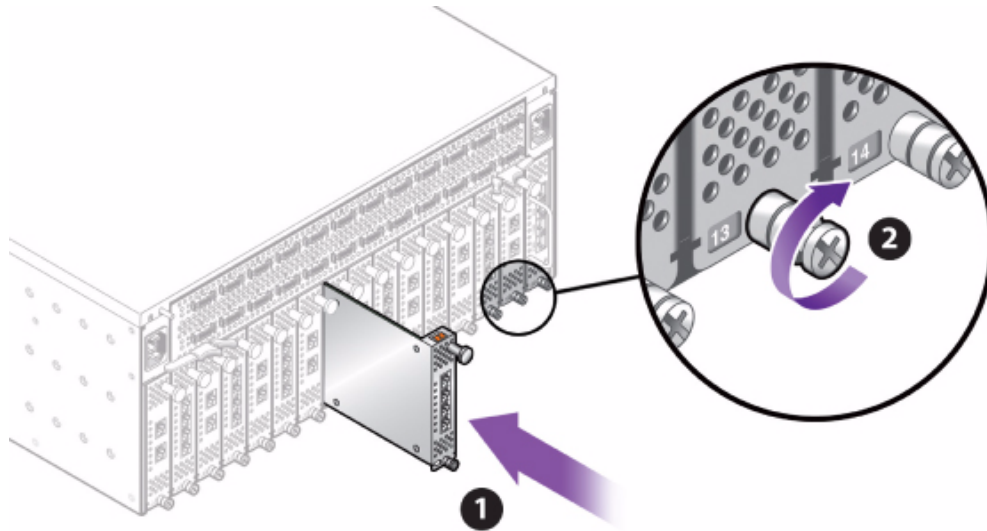

Figure 15 Installing an Oracle VP780 I/O Module
- Step 2 Install the I/O modules as shown in the following illustration (1). Ensure that the module's component side is facing towards the right edge of the chassis. Also, ensure that the module's top and bottom edges are correctly aligned with the upper and lower tracks at the left edge of each module slot. See Figure 15.